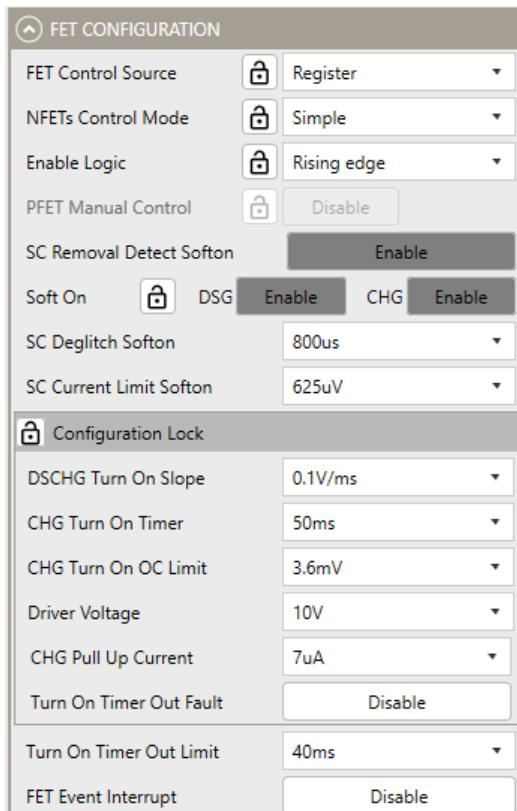

Figure 8: FET Configuration
2. Figure 8 shows the FET Configuration settings in the GUI.